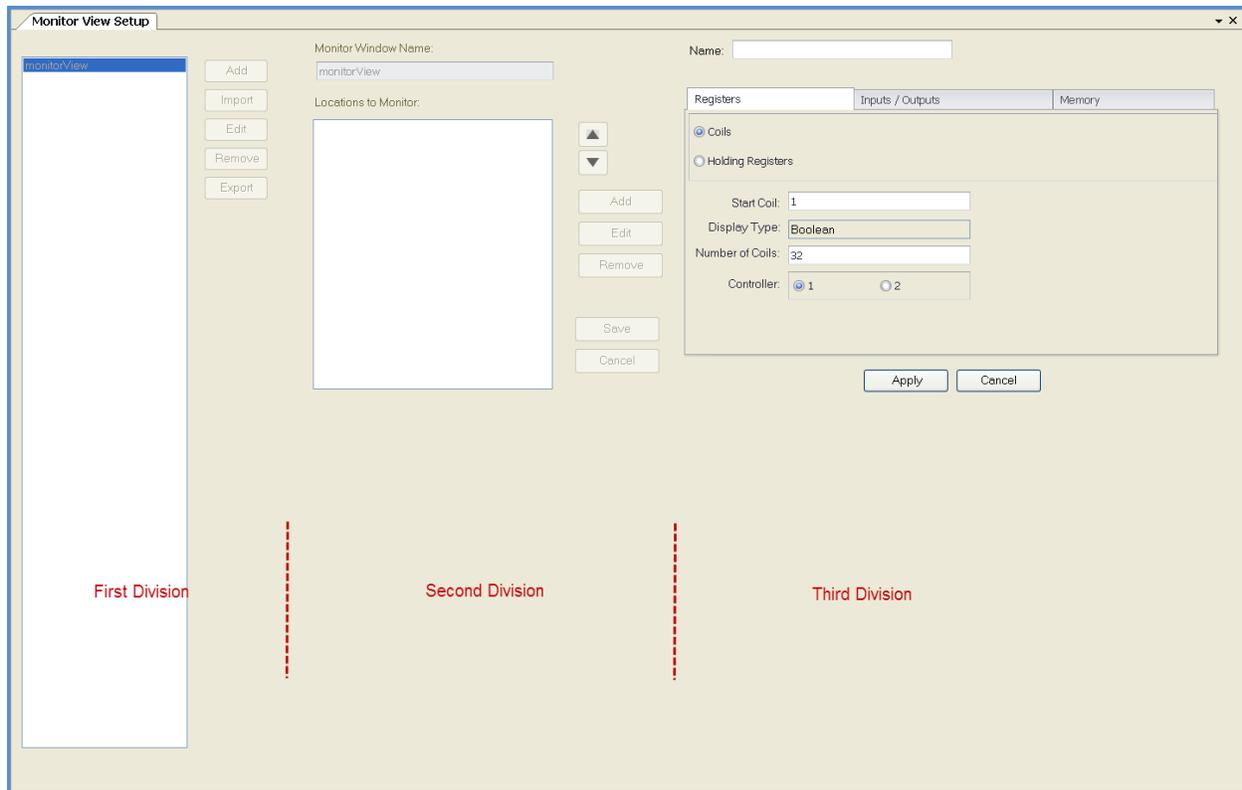

Figure 6-25. Monitor View Setup Screen
1. Open the *Monitor View Setup* window under *Settings Explorer, General Settings* (Figure 6-25).